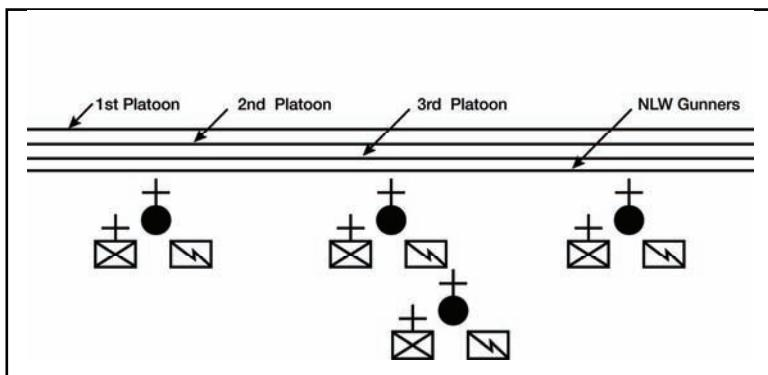

Figure 191-410-0078-2. Company line in mass formation
- c. Form the company into a company line formation with support platoon (figure 191-410-0078-3).